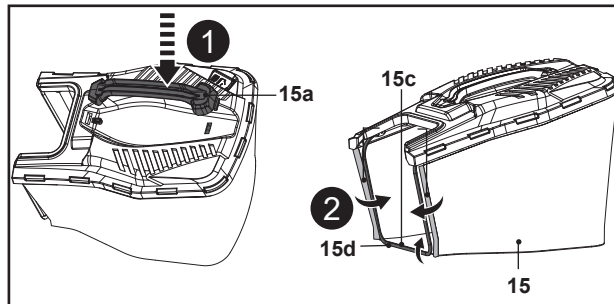

Fig. 6
1. Insert the carry handle (15a) into the two assembling slots and make sure that the carry handle (15a) is firmly in place (Fig. 6, step 1).
2. Clip the three rubber clips (15c) onto the supporting rod (15d) of the grass catcher (15) (Fig. 6, step 2).
3. The grass catcher (15) is ready for use.